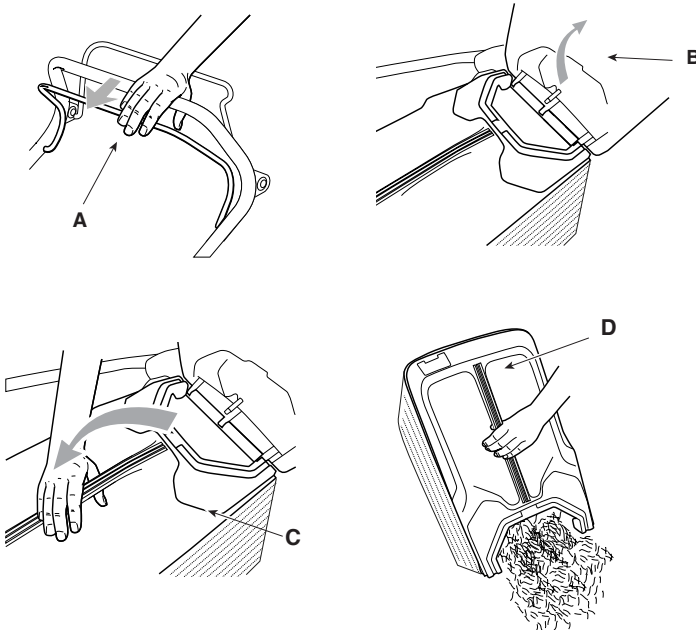

Figure 15
1. Release the engine / cutting blade brake lever (Figure 15.A).
3. Lift the rear discharge guard (Figure 15.B).
4. Grasp the handle (Figure 15.C) and remove the grass catcher keeping it in an erect position (Figure 15.D).